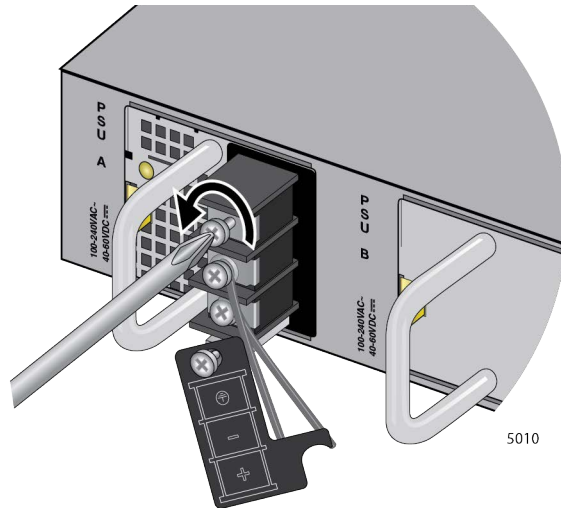

Figure 72. Loosening the Screw for the Negative (+)
- Loosen the top screw for the positive (+) with a Phillips-head screwdriver. Refer to Figure 72.